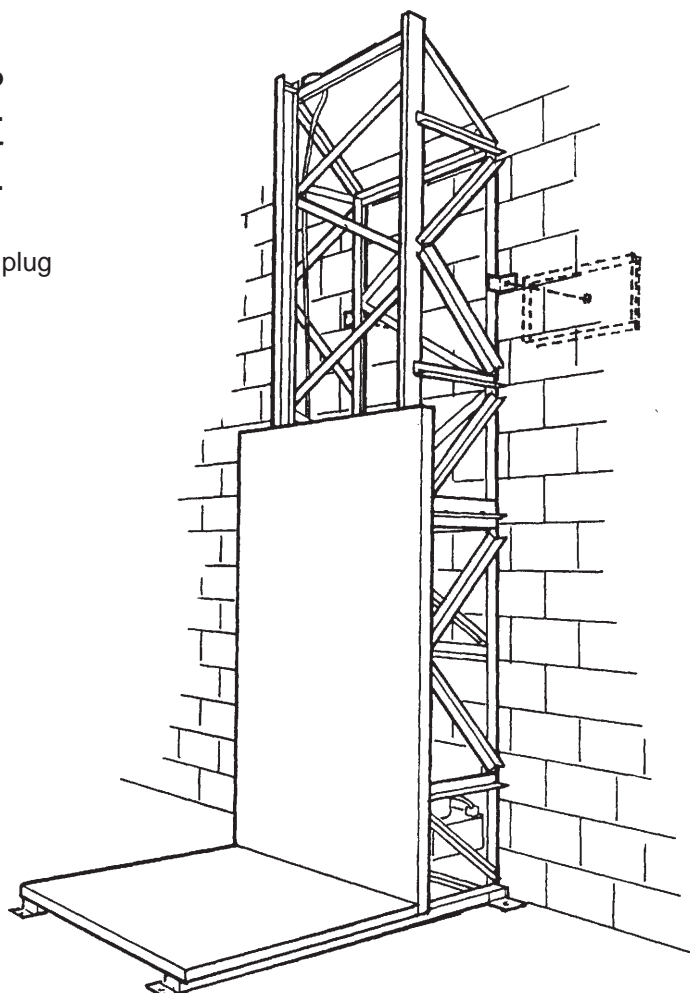

Fig. 2-4 – Bracing, Single-Mast Unit (Back to Wall)
6. Make up one or more braces. See Fig. 2-4 or 2-5. Always place one brace near the top of the mast. Make the braces of 2" x 2" x 1/4" angle iron. Find locations on the mast where the braces will be opposite floor beams or other strong parts of the building structure. If necessary, reinforce the wall material using a strong board or plate, and bolt through this. Weld or bolt each brace to the mast. At this point, do not attach the other end of each brace to the building.